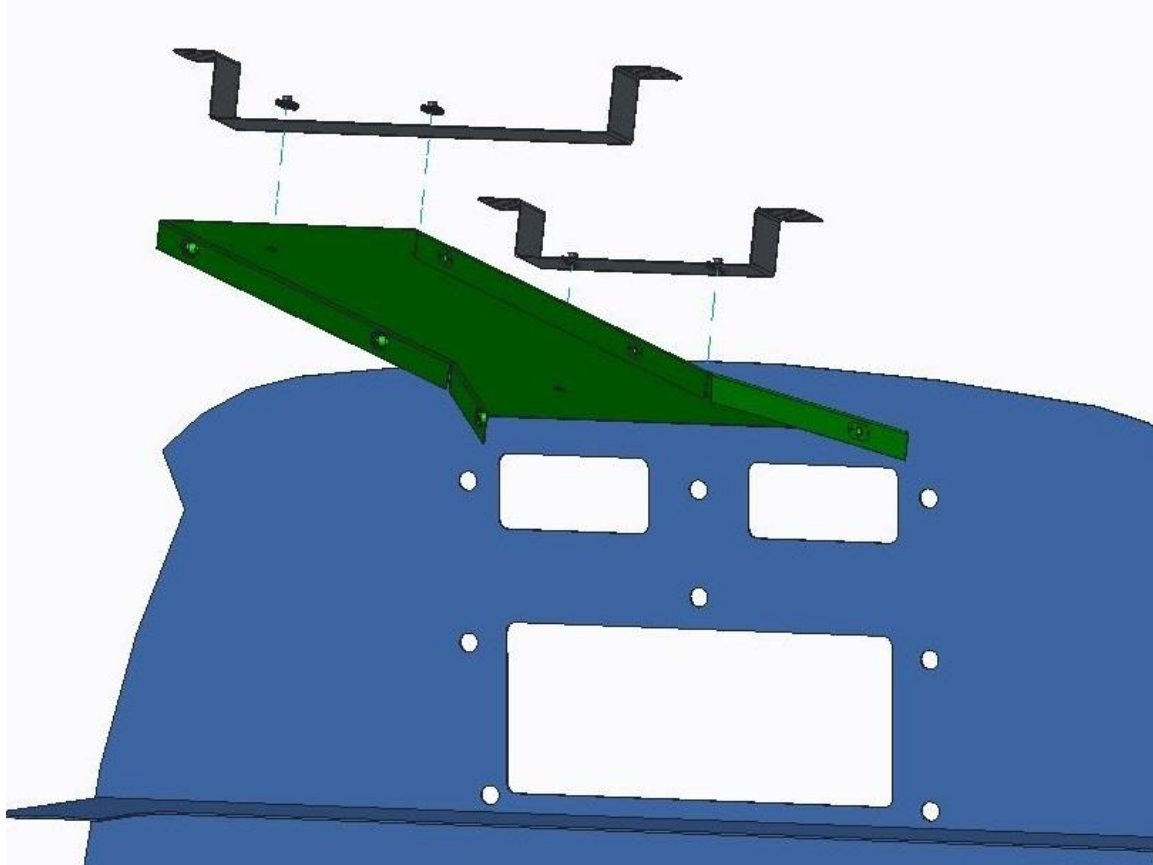

Figure 32 – Duct Support Mounting
- 1) Remove the rear section of the headliner per the AMM. Bond AC-02147 Rear Duct Support Assembly to the ceiling with EA 9360 adhesive per NC-20-037 so that the nutplates align with AC-02069 Rear Duct Hanger when it is placed against the back wall centered to the outlet cutouts. Position the AC-02342 Rear Duct Support Assembly so that it straddles the antennae plate and aligns with the forward slots of the Duct Hanger. Mark the slots and attach the provided nutplates to the Duct Support, then bond that completed assembly into place. Please note; it may be helpful to have some type of support (such as dowel rods) ready to help prop up the brackets in place against the ceiling while they cure. See Figure 32.